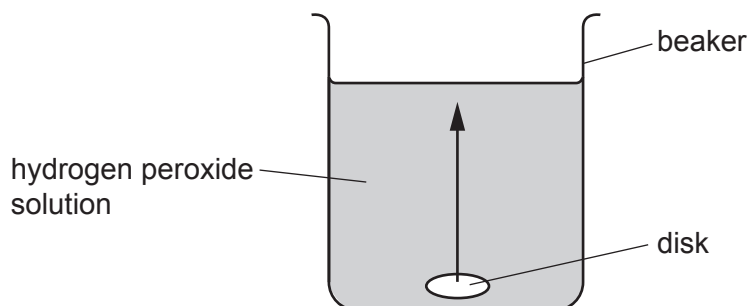

Fig. 2.1
Step 4 The disk sinks to the bottom of the beaker and then slowly rises to the surface as shown in Fig. 2.1.